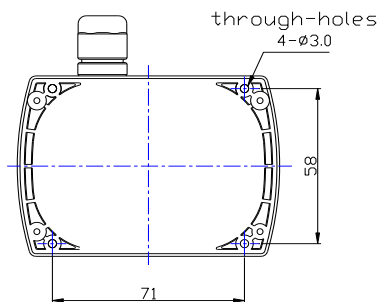

Figure 1
- The installation site should be far away from heater, cooler, fan or other humidity and ventilation sources. Figure 1 is bottom view of the product, for opening the 4 holes on the mounting surface. The height should be about 1.2-1.8 m from the ground.